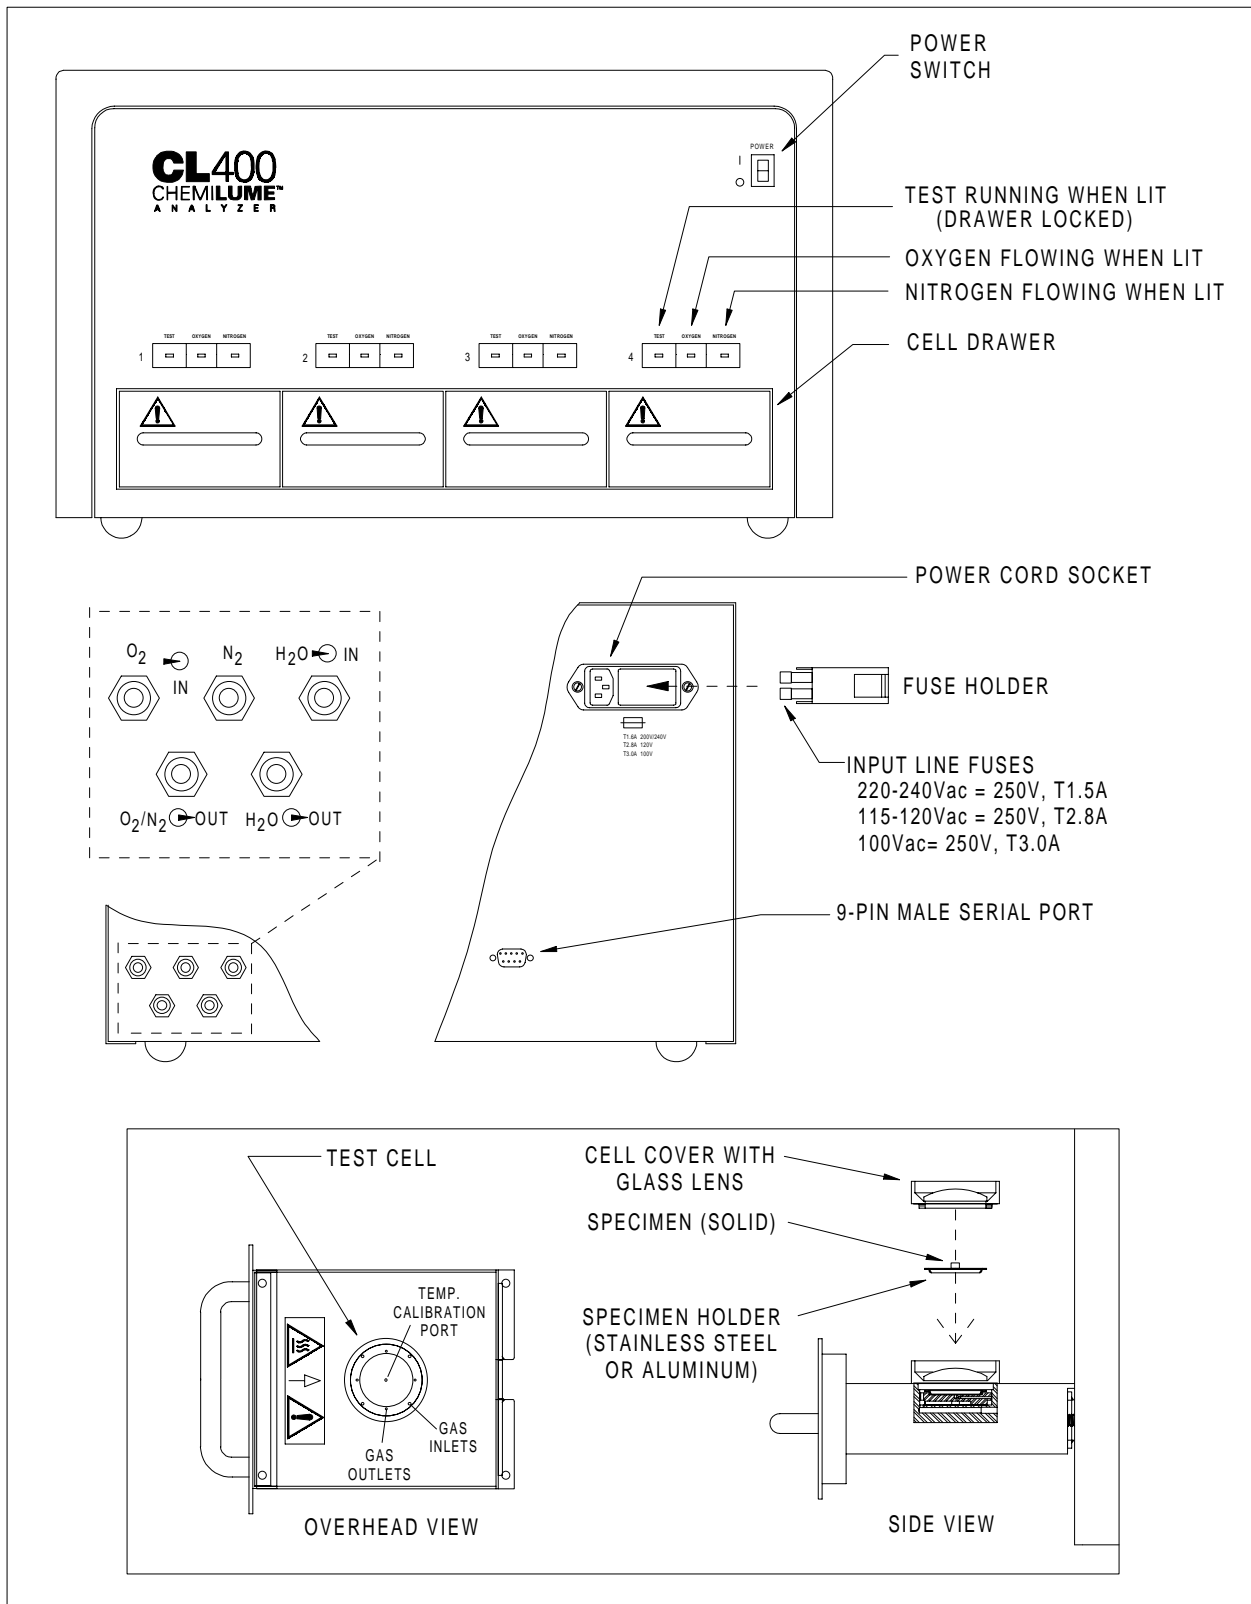

Figure 4 - CL400 ChemiLume Component Descriptions
1) Turn on the CL400 power switch (Fig. 4). The power switch should light up to indicate power is present. If it doesn't, check the power cord connection to ensure it is fully engaged in the socket on the back of the unit and plugged into an AC power outlet of the correct voltage.
2) If the power switch is still not lit, unplug the CL400 from the power source and check the input fuses on the back of the unit (Fig. 4). Contact Atlas Service if the CL400 fails to operate when power is applied.